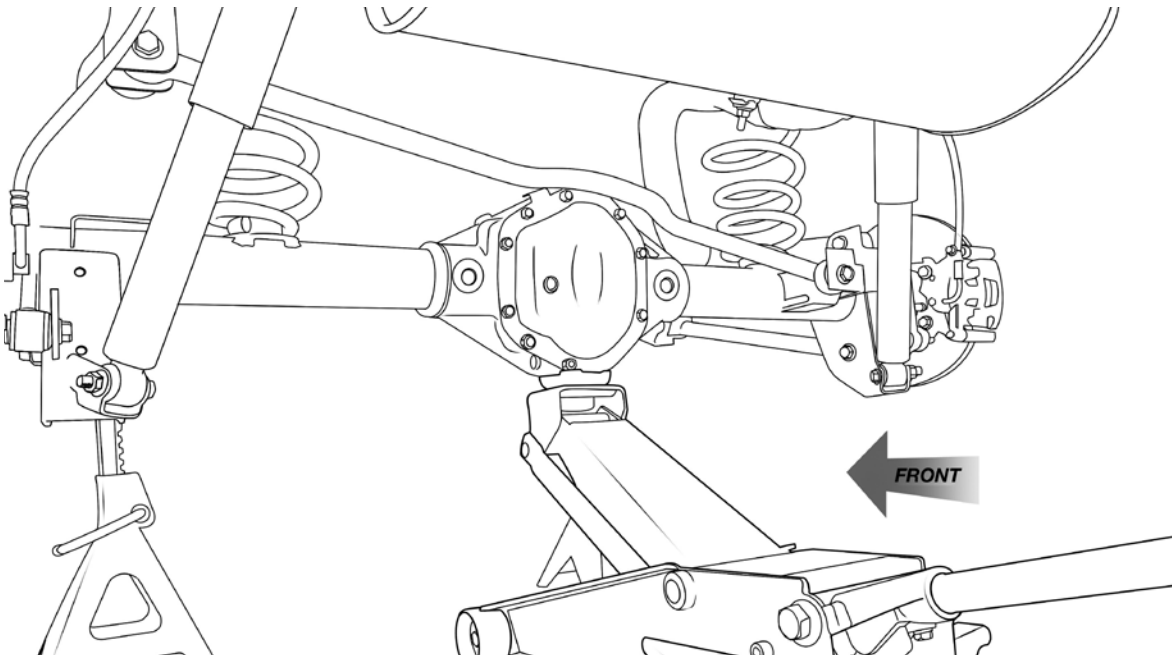

Figure 1
1. Raise Jeep and support the frame using jack stands or a hoist, such that the rear axle can be lowered enough to remove the springs. Support the axle by placing floor jack under the center of the axle. Remove the wheels (Fig. 1).